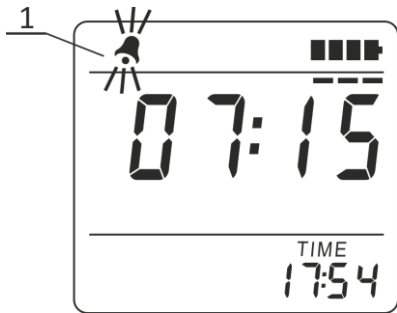

Figure 2.17 – LCD of the radiometer
As soon as the alarm clock triggering time is programmed, the alarm clock symbol (1) starts blinking on the LCD of the radiometer (Figure 2.17).